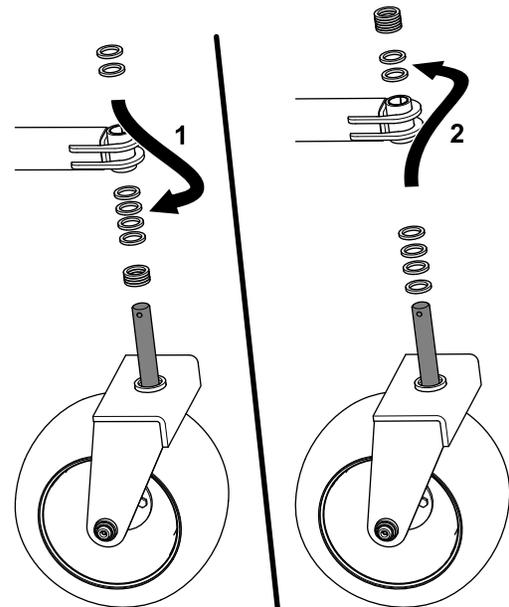

Figure 6
5. Remove the spacers and caster wheel (Figure 6).
- To raise the roller, install spacers to the caster wheel. To lower the roller, remove spacers from the caster wheel (Figure 6).
- Install the caster wheel to the caster arm, then install the remaining spacers on top (Figure 6).